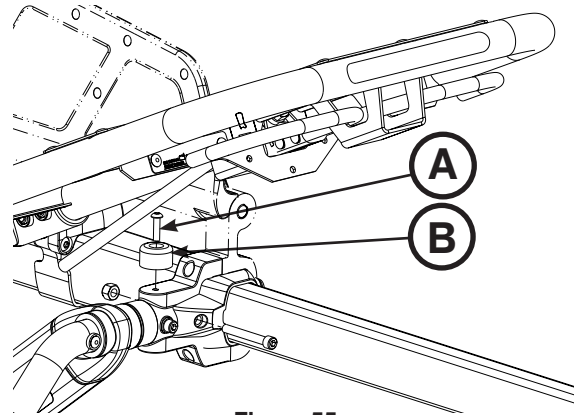

Figure 55
3. Using a T25 Torx driver, remove the button head cap screw (A) and black bumper (B) on the side where you are replacing the siderail (Figure 55). Save the screw and bumper for reinstallation.